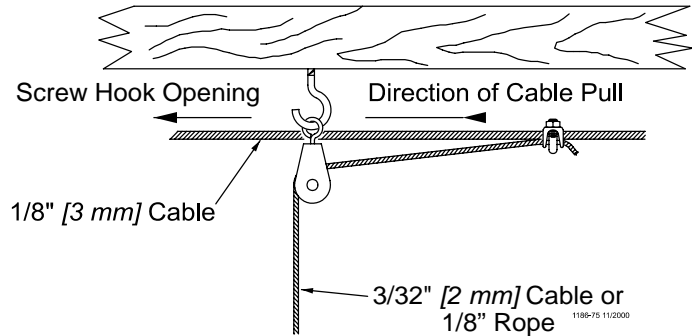

Figure 3. Screw Hook Installation
Screw the threads all the way in to prevent bending. The opening of the hooks must point away from the direction the cable pulls. See **Figure 3**
3. After the Screw Hooks or Ceiling Hooks have been secured to the trusses, install the pulley assemblies as shown in **Figures 3 & 4**. Make sure the Screw Hooks or Ceiling Hooks are pointing in the proper direction (opposite the winch).